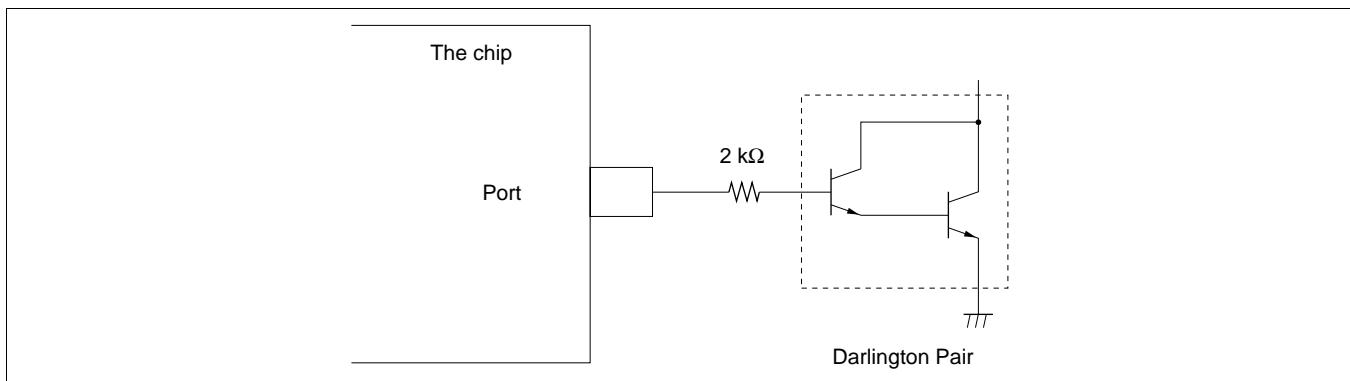

Figure 22-1 Darlington Pair Drive Circuit (Example)
- When driving a darlington pair or LED directly, always insert a current-limiting resistor in the output line, as shown in figures 22-1 and 22-2.